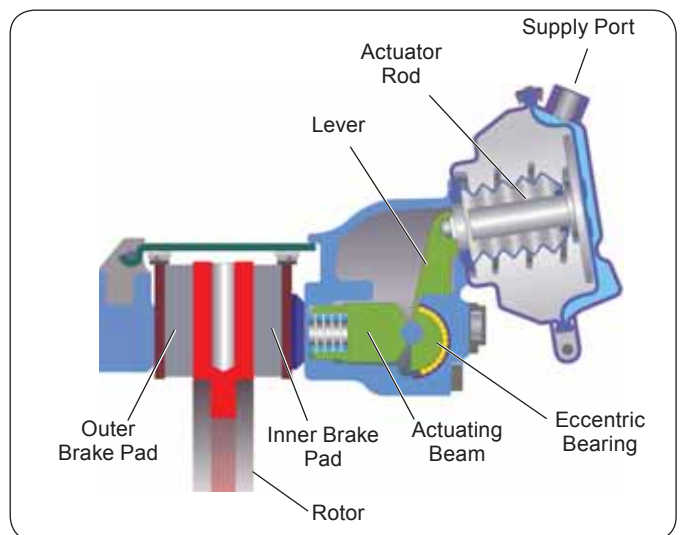

FIGURE 17 - AIR DISC BRAKE - CUT-AWAY VIEW
**The function of the ADB is to convert the air pressure applied when the driver applies the brakes into braking force against the rotor on the vehicle wheel.** This is done by the application of air from the foot brake or relay valve entering the brake chamber, causing the plate to move the push rod outwards. The push rod exerts force on the lever (see Figure 17) and this force is transferred and multiplied as it turns around the eccentric bearing. The bearing and the connected actuating beam move outward, overcoming the force of the two return springs. The force is then transferred to the two threaded tubes, tappets, and finally to the inner and outer brake pads.